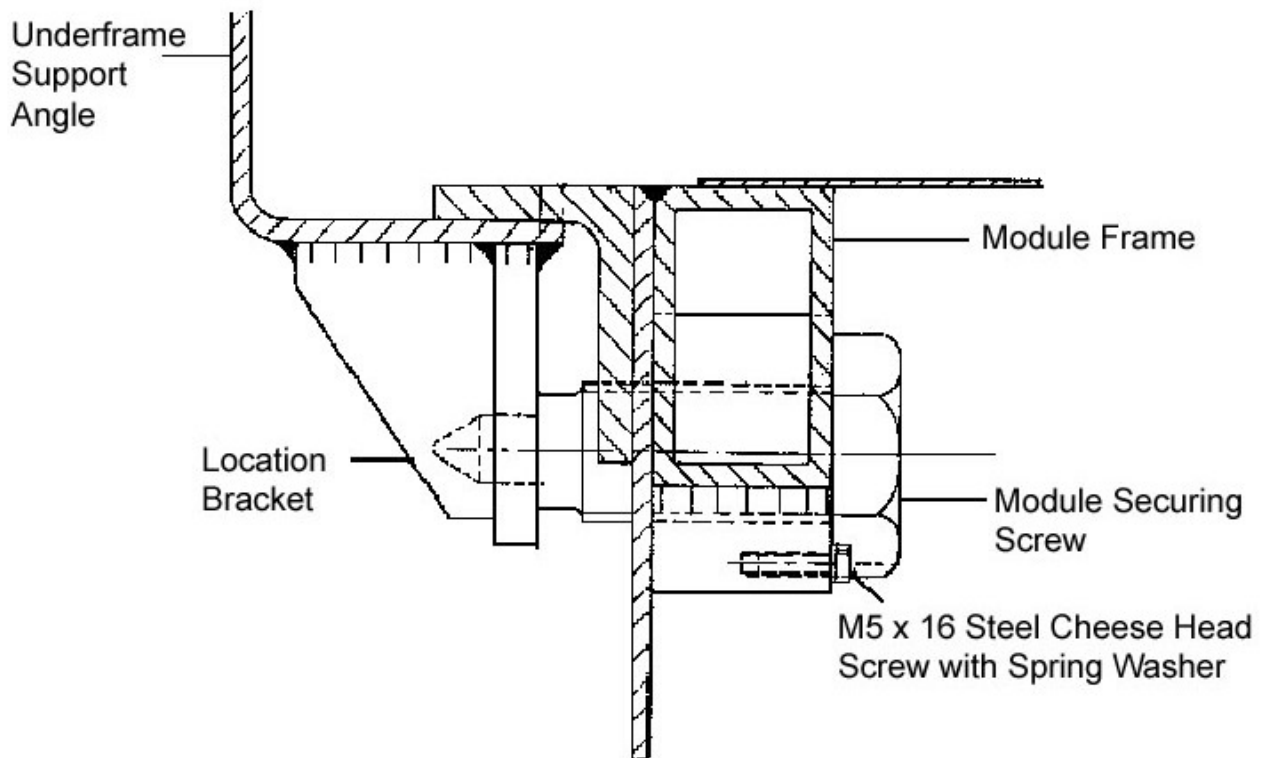

Figure 4: Front Securing Arrangement
- 2.3.4 Examine two module securing screws (see Figure 4).
2.4.3 Fit an M30 special module securing screw to each side at the front of the module (see Figure 4).
2.4.4 Gently tighten and position the head of each M30 screw so that it can be locked in place with M5 x 16 steel cheese head screw and new spring washer (see Figure 4).
2.5.2 Fit an M30 special module securing screw to each side at the front of the module (see Figure 4).
2.5.3 Gently tighten and position the head of each M30 screw so that it can be locked in place with M5 x 16 steel cheese head screw and new spring washer (see Figure 4).